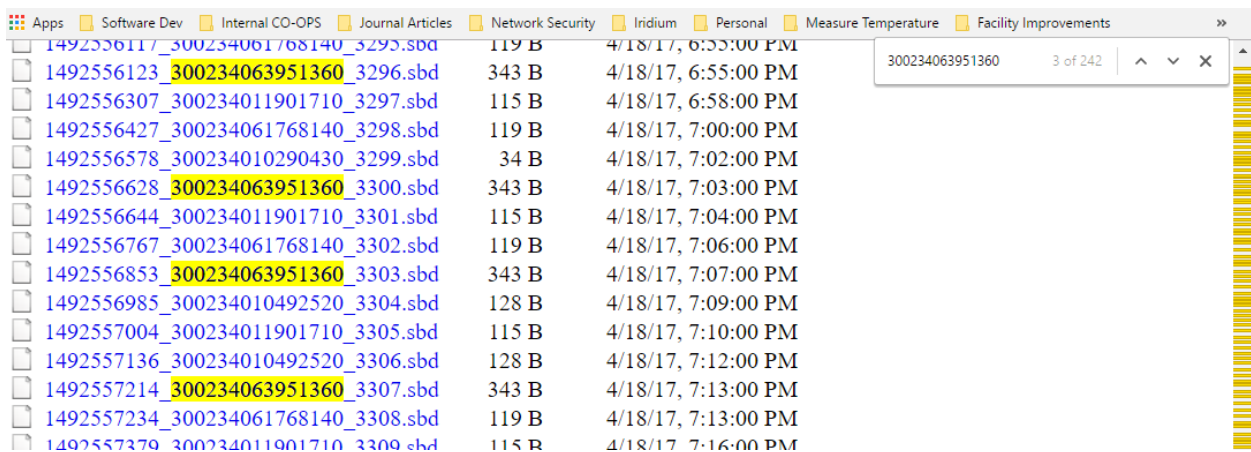

Figure 16: Tidepool - Short Burst Data Files
5. *Ctrl-F* to Search for SBD Messages, Corresponding to Station’s International Mobile Equipment Identity (IMEI) Number (Figure 16)